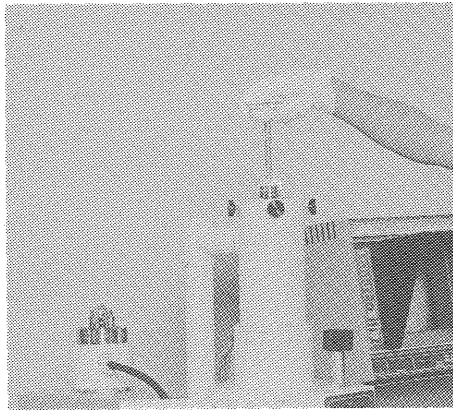

Fig. 6.4-1 Taking Pole Pieces Out
2. Enter the pole piece removing tool in the groove of anode and loosen the anode counterclockwise. Then, take it upward very carefully to take out pole pieces (refer to Fig. 6.4-1).